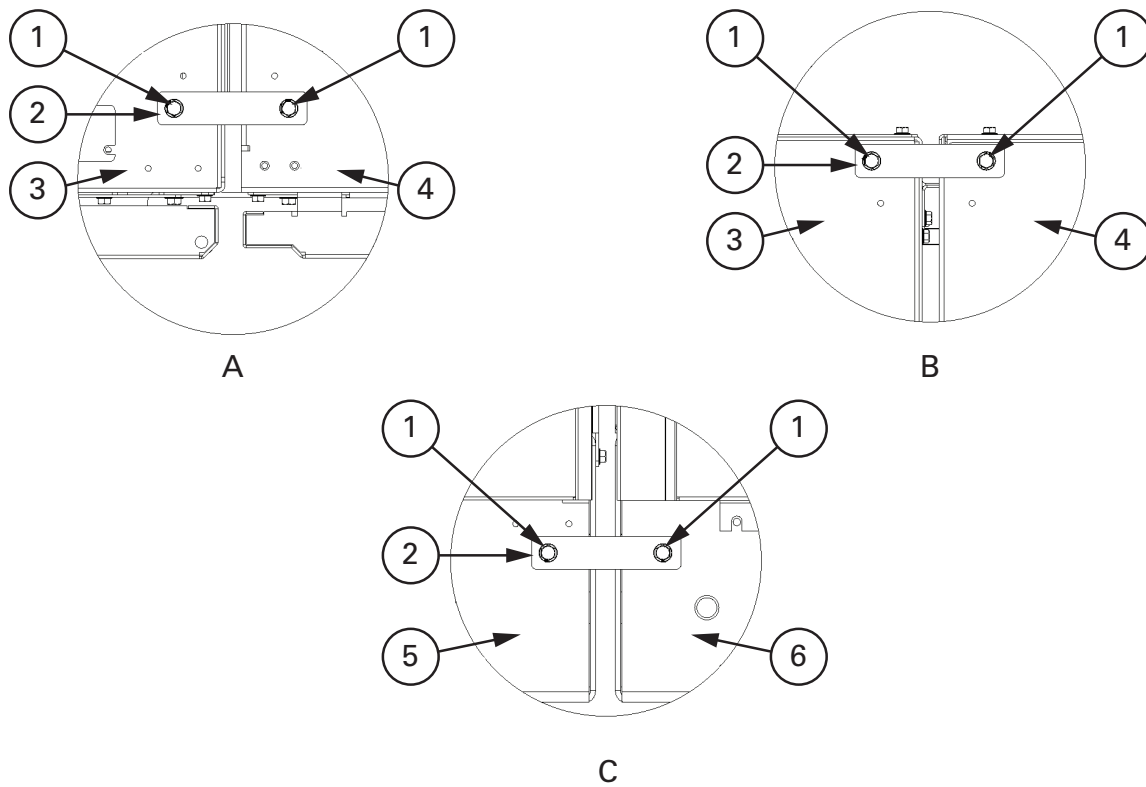

Figure 4-5. ISBM section to UPM section joining brackets
11. Locate the hardware kit (packed inside a drawstring bag tied to the left middle panel of the UPM section). Locate two flat brackets and screws from the field kit. Align the holes in the flat brackets over holes in the top rear and top front of the ISBM and UPM cabinet sections. Secure the brackets with the screws from the field kit (see Figure 4-5).
12. Locate one flat bracket and screws from the field kit. Align the holes in the flat bracket over holes in the front base of the ISBM and UPM cabinet sections. Secure the bracket with the screws from the field kit (see Figure 4-5).